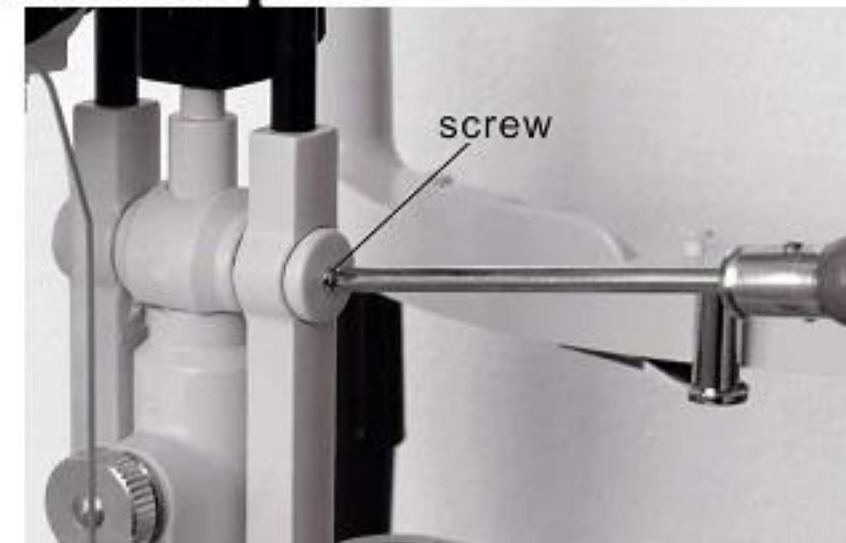

Fig.40
If the inclination mechanism of the illumination part is too loose, fasten the screws on both sides of the pivot point with the screw driver (U) (Fig. 40).